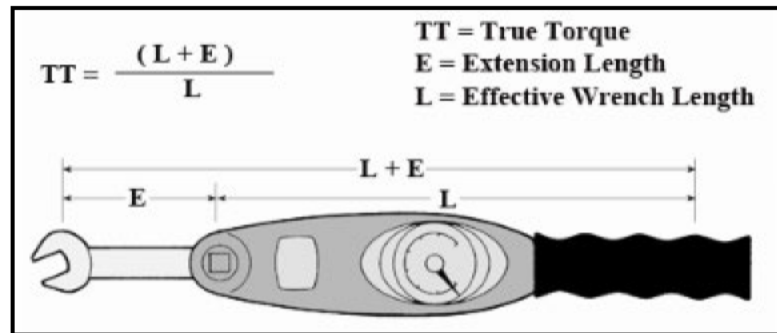

Fig. 3, Torque Calculator
9. If bolts are loose, remove bolt, replace with new bolt and apply Red Loctite™, install bolt, install ½ Drive 1-1/8 12-point torque adaptor (p/n: SRDH361) and torque loose bolt to 241lbf·ft (327 N·m). See **Fig. 3**.
**Note:** See **Fig. 3** for torque adaptor calculations.